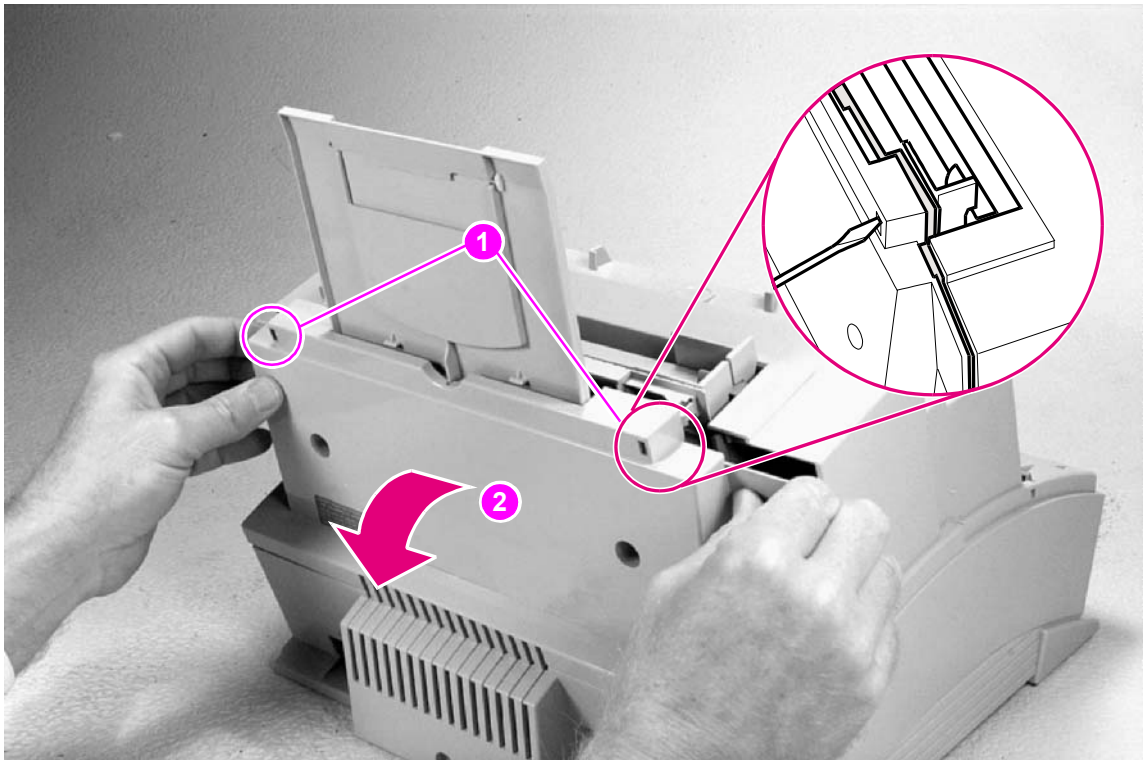

Figure 6-3 Back Cover removal (2 of 2)
- 5 Separate the rear panel from the main cover, pulling the lower corners away from the printer first. Then, insert the small flathead screwdriver into the openings at the top to pop the upper corners (Figure 6-3, callout 1).
- 6 Remove the cover by grabbing it on both sides and pulling it straight back with a firm pull (Figure 6-3, callout 2).